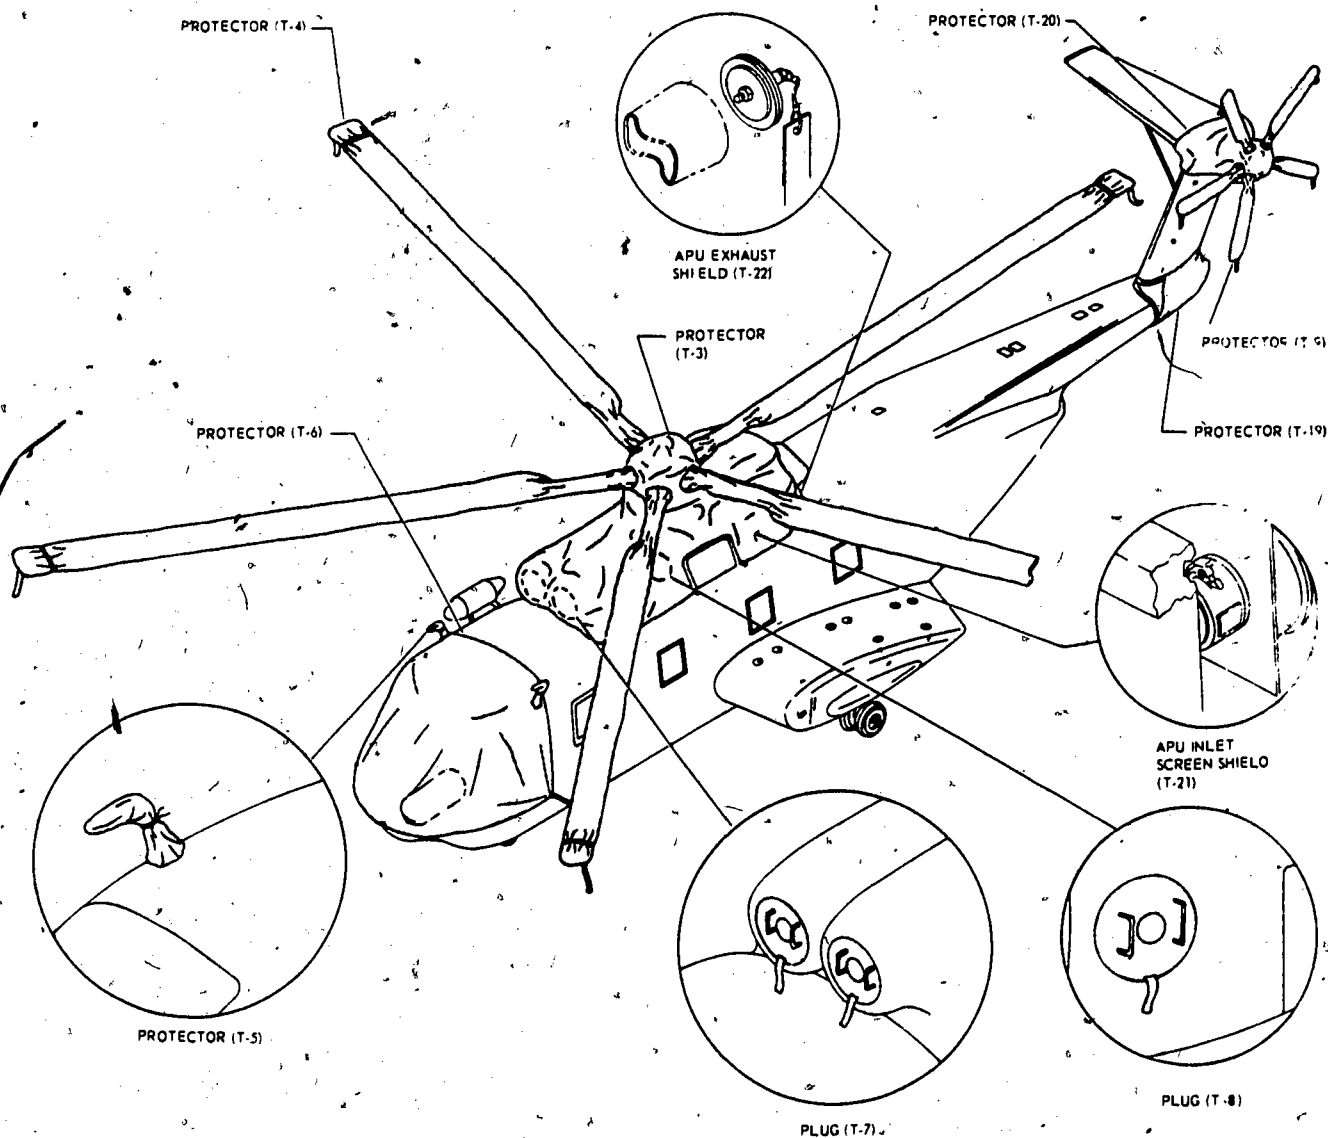

Figure 4. - Protective covers.
3. Protective covers and tiedown equipment - REMOVED. (See figure 4.) | 5. Cargo door safety strap for general condition.